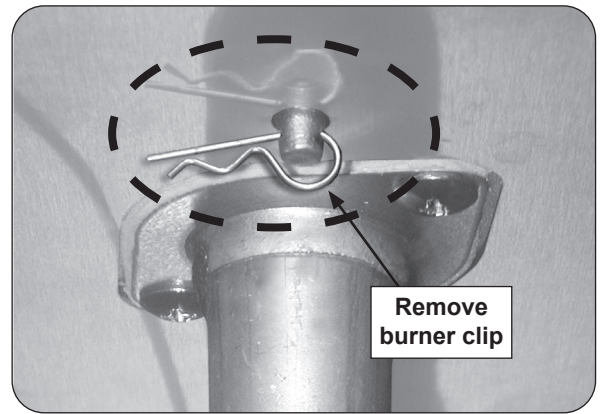

Fig. 34-1 Remove burner clip
3. Reach up under the burner support and remove the burner retaining clip (see Fig. 34-1), located at the rear of the burner pipe.
7. Replace the burner retaining clip (underneath burner). Reference Fig. 34-1.